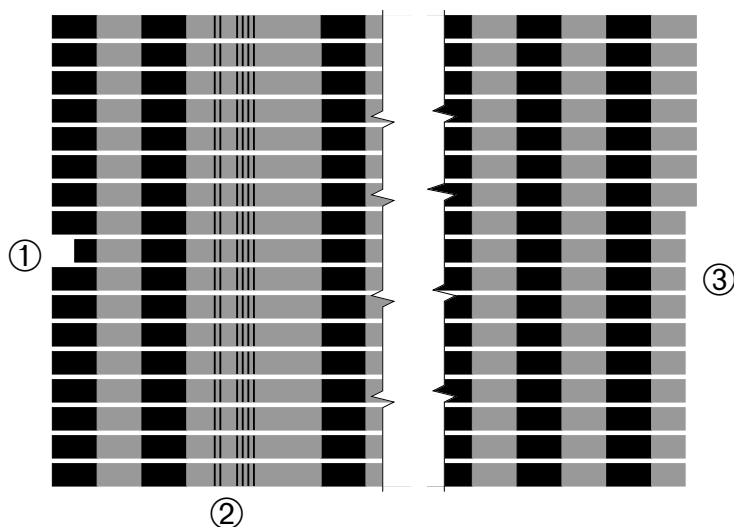

Figure 3.1 An example of a test page.
- A reference band near the center of the page is imaged at the current exposure set in the Cassette Screen. The reference band is indented at the left edge of the test page. See ① in Figure 3.1.